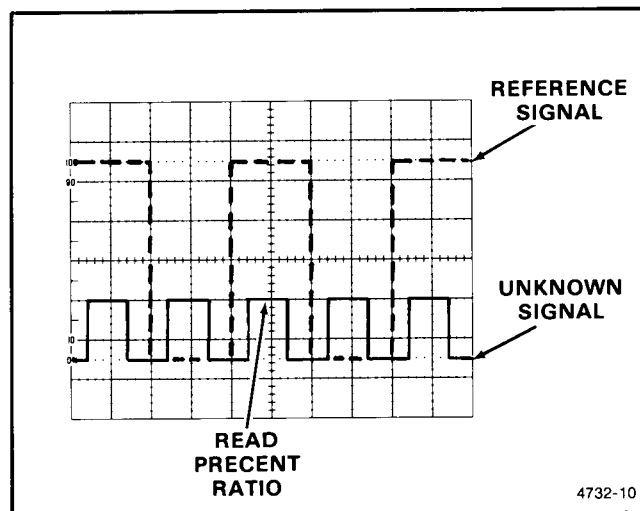

Figure 4-5. Voltage ratios.
5. Horizontally position the waveform so that its top-most features cross the center vertical graticule line (see Figure 4-5).